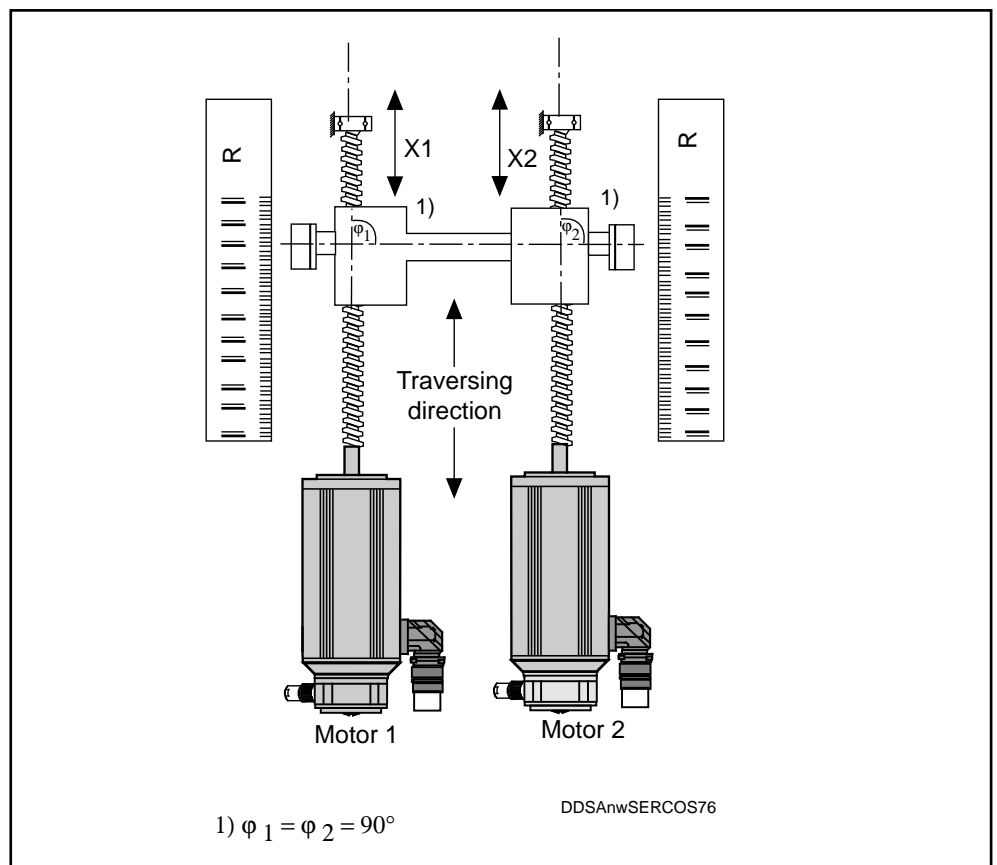

Fig. 7.65: Right-angled aligning of gantry axes
1. Align the gantry axis at right angles to the traversing direction. This can be done manually or by moving the axis in jog mode (Fig. 7.65).